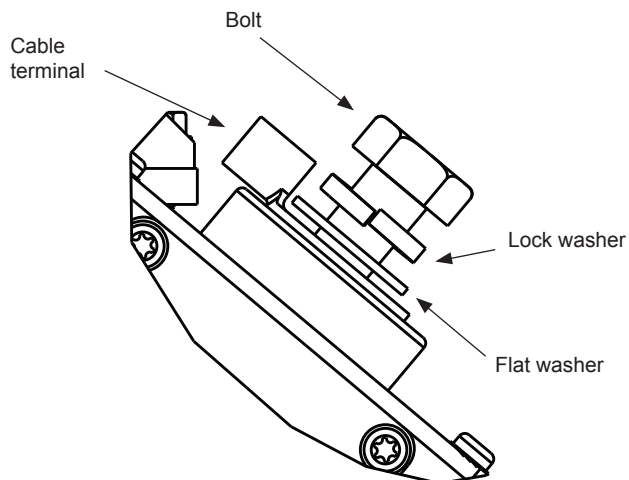
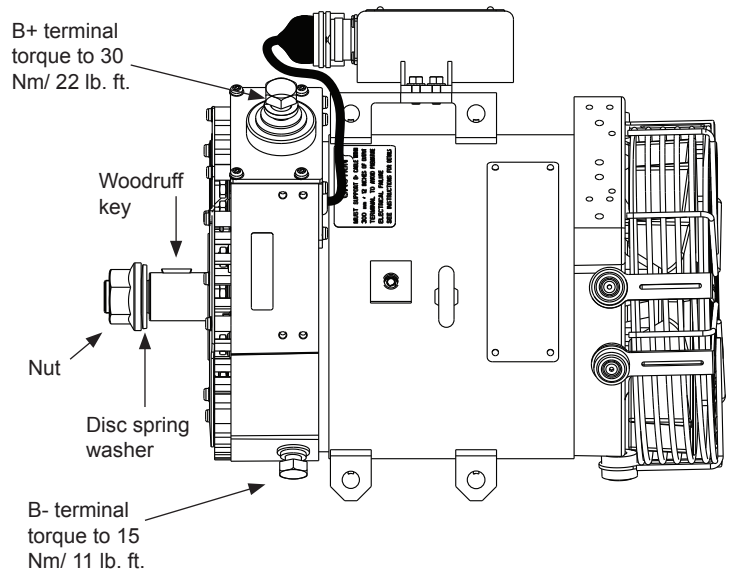

Figure 2: Terminal Hardware Stacking Order
Figure 1: N1390 Alternator Installation
3. Install pulley, disc spring washer, and nut on shaft in that order. See Figure 1. Torque pulley nut to 163 Nm/120 lb. ft.
6. Connect vehicle B+ cable to alternator B+ terminal as shown in Figure 1. Install hardware in stacking order shown in Figure 2. Torque B+ terminal bolts to 30 Nm/22 lb ft.
7. Connect vehicle B- cable to alternator B- terminal. See Figure 1. Install cable hardware in stacking order shown in Figure 2. Torque B- terminal bolts to 15 Nm/11 lb ft.